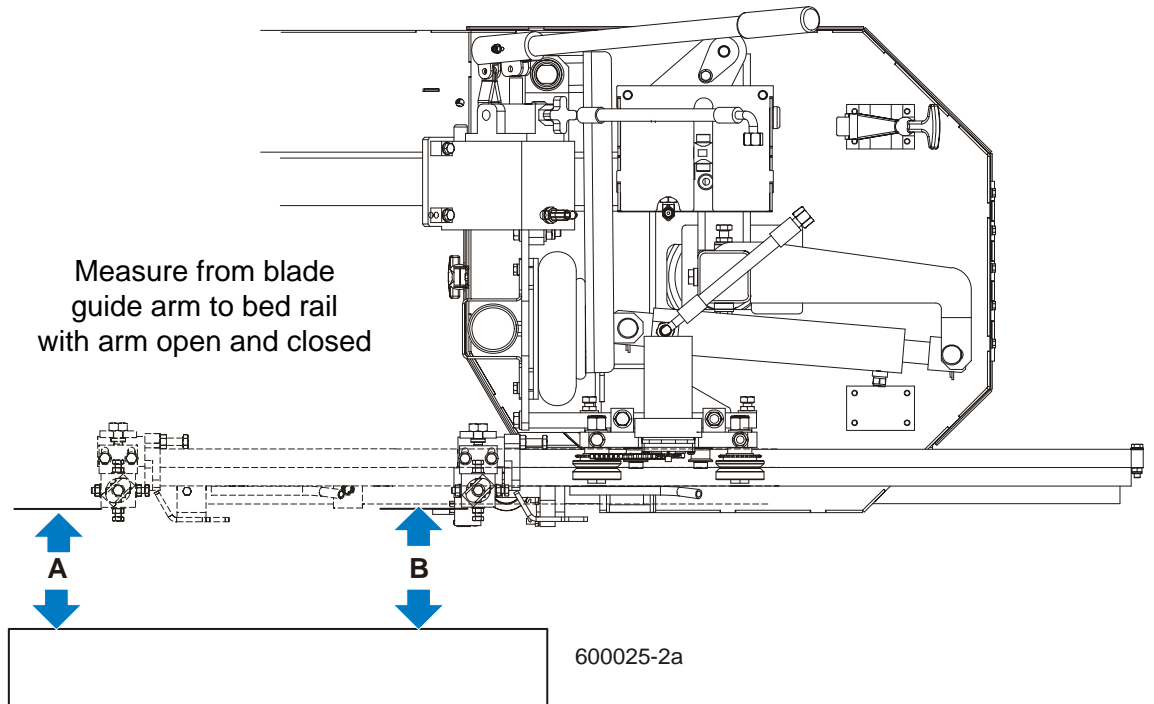

**FIG. 5-29**
**See Figure 5-29.** Loosen the horizontal adjustment bolt jam nuts. To tilt the arm in toward the blade, loosen the right bolt and tighten the left bolt. To tilt the arm out away from the blade, loosen the left bolt and tighten the right bolt. Retighten the jam nuts and recheck the blade guide arm horizontal tilt.